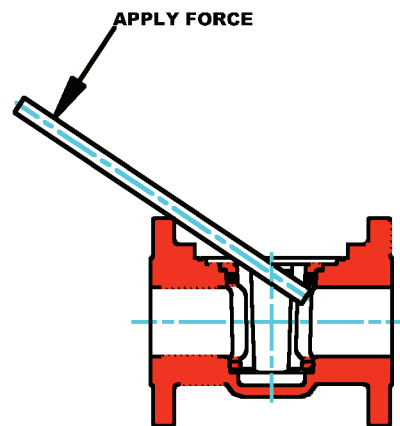

Figure 2
- b. To remove the sleeve, use a wooden dowel and pry the sleeve upward by engaging the dowel in the sleeve at the top of the port. A sharp blow may be necessary to dislodge the sleeve. Both sides of the sleeve may need to be pried upward for removal (See Figure 2).